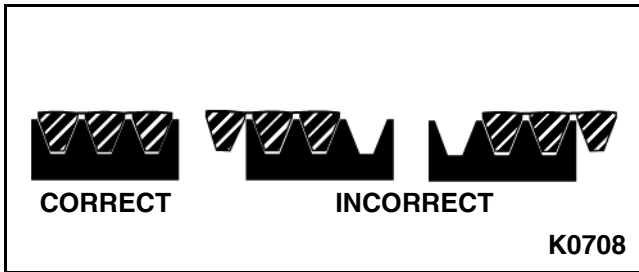

Figure 3-18
2. Check drive belt for correct alignment. If alignment is incorrect, severe damage to drive belt may occur. See Figure 3-18.